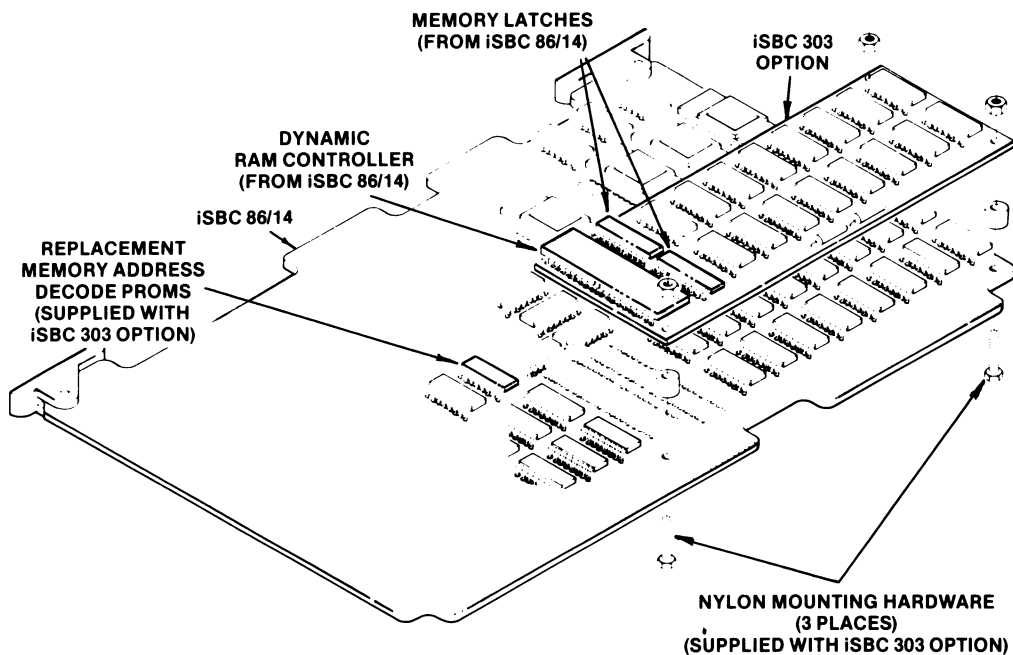

Figure 2-2. iSBC™ 303 Parity Board Orientation
4. Insert the iSBC 303 Parity board mating pins into socket U72 and other mating pins, orienting the board as shown in Figure 2-2.
6. Place nylon spacer (use short spacers) between the base board and the iSBC 303 Parity board at one of the holes shown in Figure 2-2.